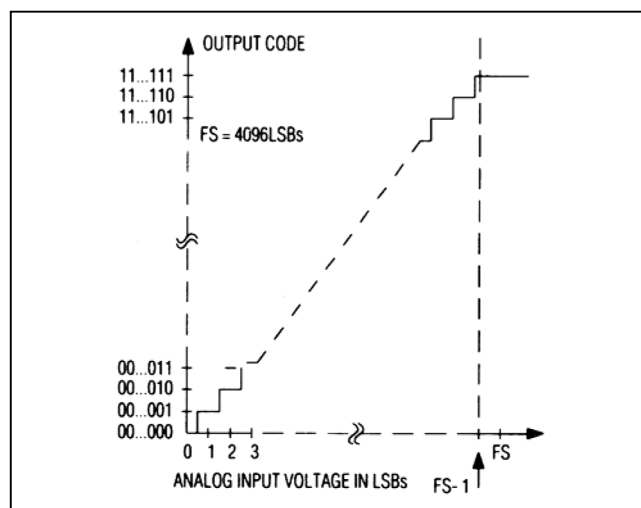

Figure 17. MX7672 Ideal Unipolar Transfer Function
Figure 17 shows the nominal input/output transfer function of the MX7672. Code transitions occur halfway between successive integer LSB values. The output coding is binary with 1 LSB = Full Scale (FS)/4096. FS is either +5V or +10V, based on the analog input configurations.